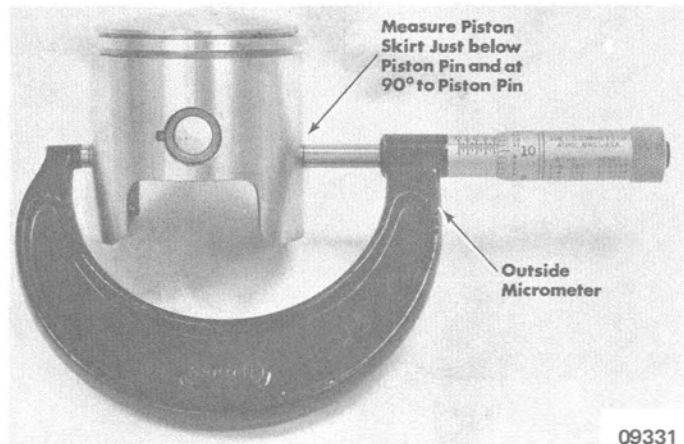

Figure 5. Measuring Piston Skirt
3. Measure piston at **MIDDLE** of piston skirt, just below piston pin, and at a right angle ( $90^{\circ}$ ) to piston pin. (Figure 5)